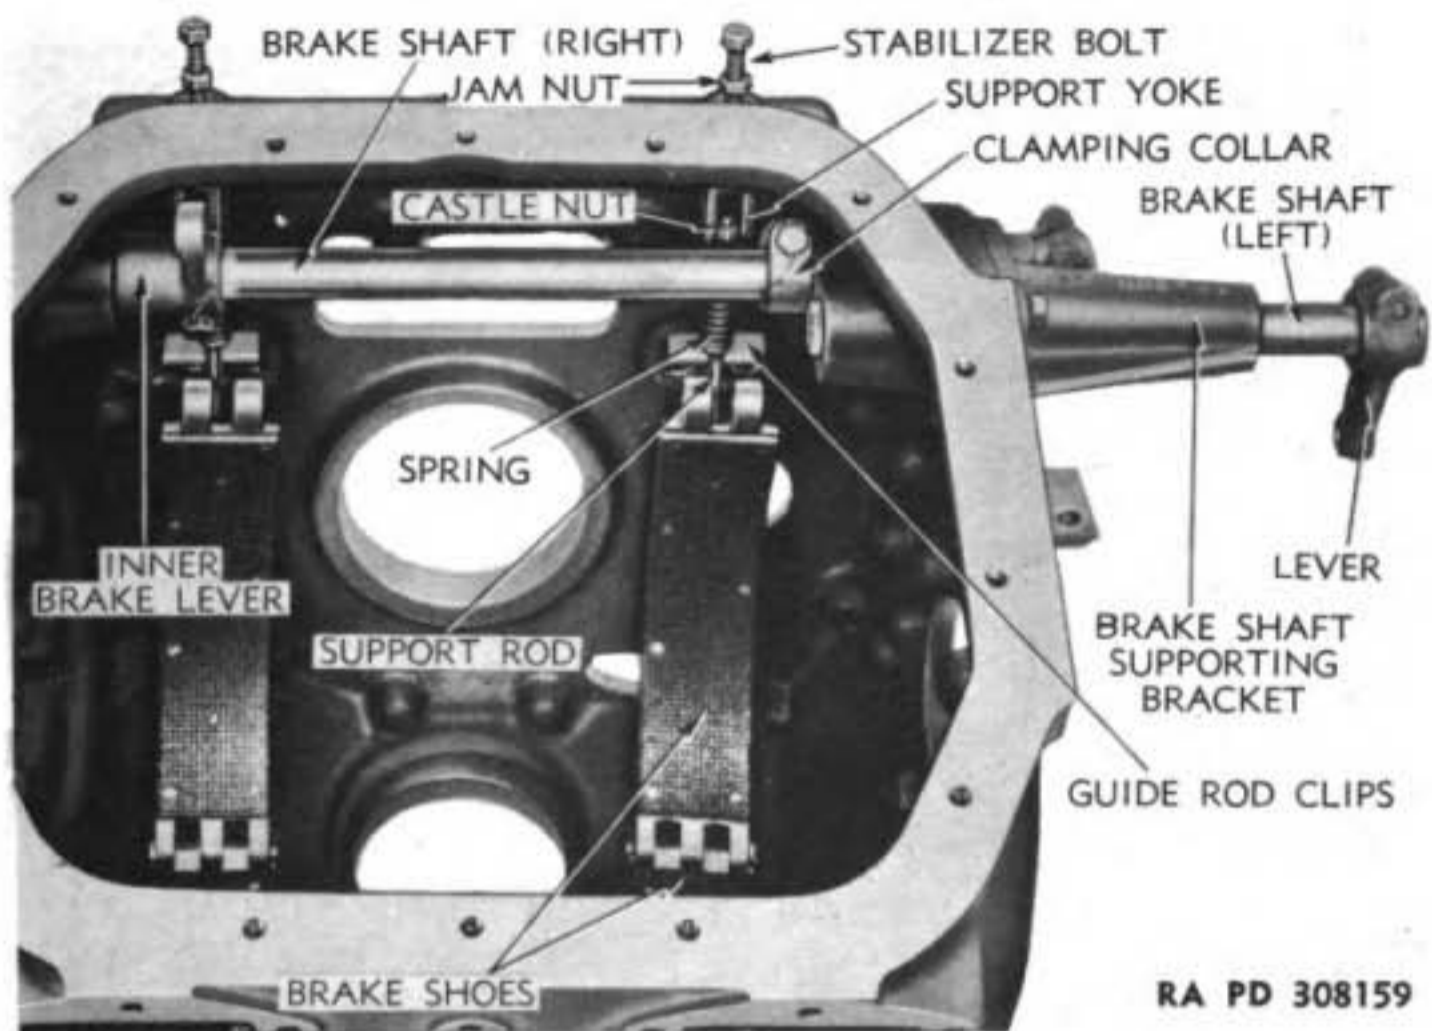

Figure 57 – Steering Brake Components
b. Install Brake Control Shafts in Differential Housing (fig. 57). If old bushings were removed, install new bushings in outer ends of holes in brake shaft supporting bracket, using remover and replacer (41-R-2376-290) or arbor press. Leave bushings flush with outer side of bracket. Bushings must also be installed in inner ends of holes
(1) **INSTALL LOWER BRAKE SHOES IN CASE.** Place two connected brake shoes of each steering brake assembly in housing (fig. 57). The lower end of support rods connected to the rear brake shoes slip into the guide rod clips. Place springs on rods above clips, then place support yokes on rods. Insert castle nuts into slots in yokes and start nuts onto rods by turning nuts with yokes. Then screw stabilizer bolts with jam nuts installed against head, through top of case and into yokes.